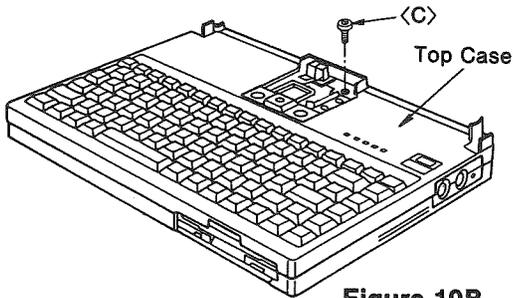

Figure 10B
(8) Remove one screw <C> (2.6×8mm) as shown in Figure 10B.